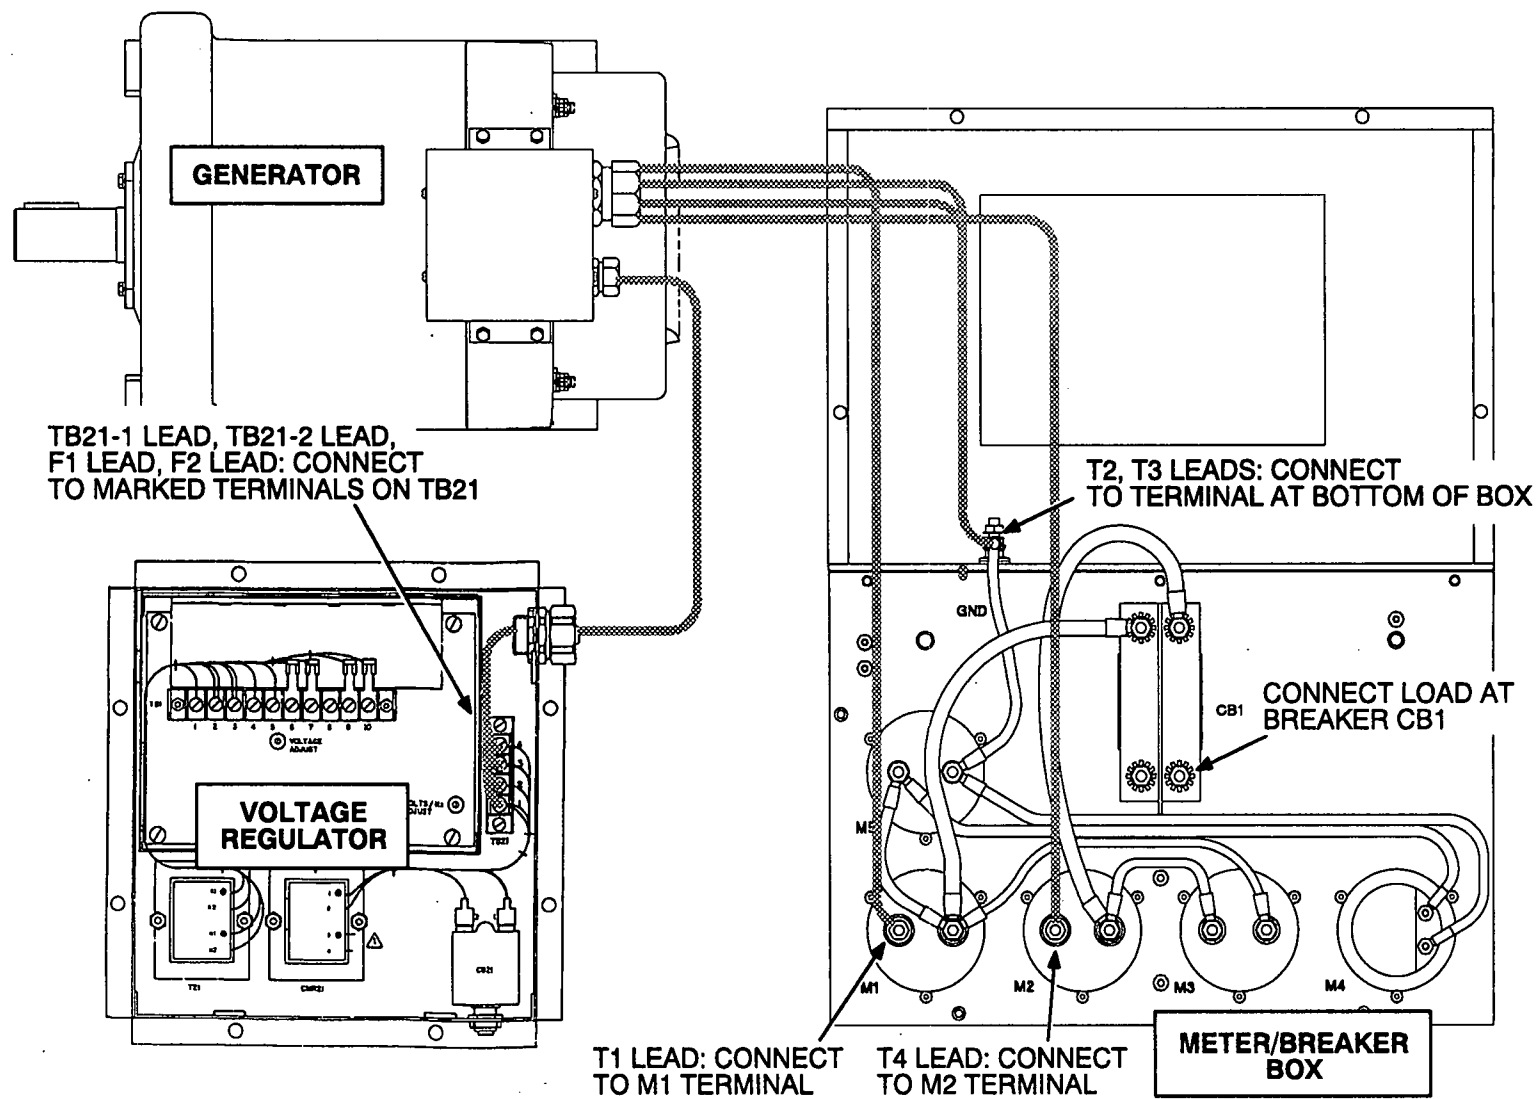

FIGURE 6-1. 15 KW GENERATOR WIRING
- 15 KW generator wiring: Figure 6-1